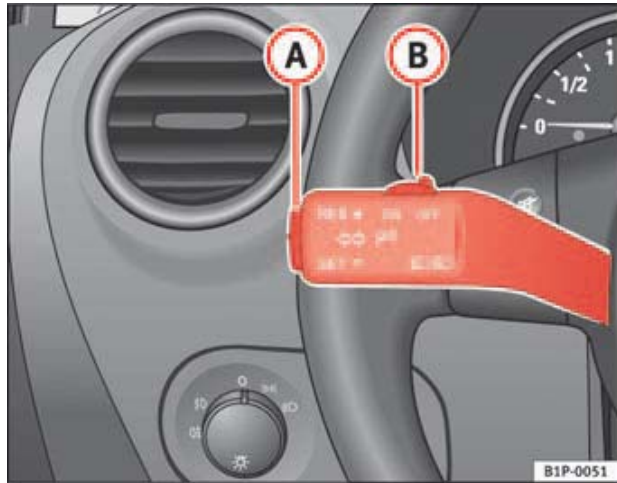

Fig. 126 Turn signal and main beam lever: switch and rocker switch for CCS
- Press the lower part **SET** of the rocker switch ⇒ fig. 126 **A** once briefly, when you have reached the speed you wish to set.